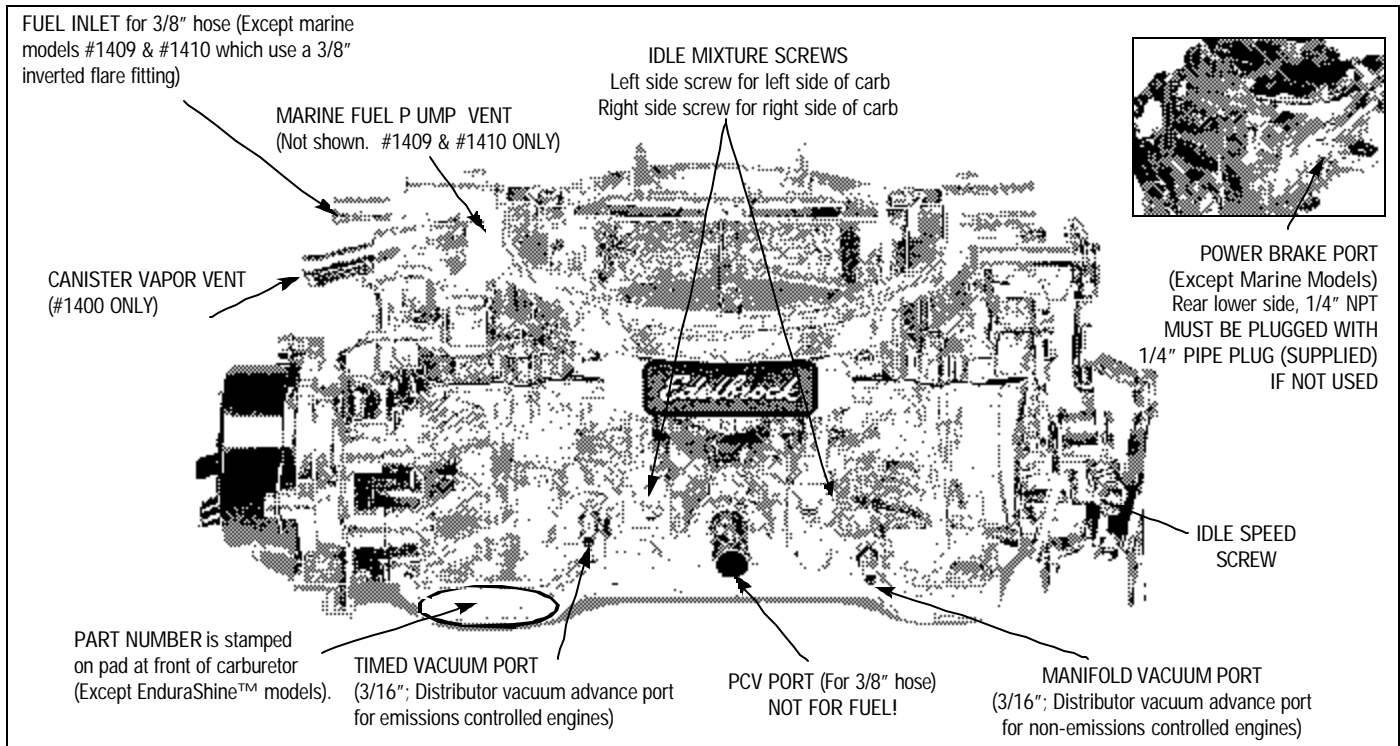

Figure 1 - Fittings and Vacuum Port Locations
- Connect all vacuum hoses to their proper location on carburetor (See Figure 1). Replace hoses that appear brittle or cracked to prevent vacuum leaks.